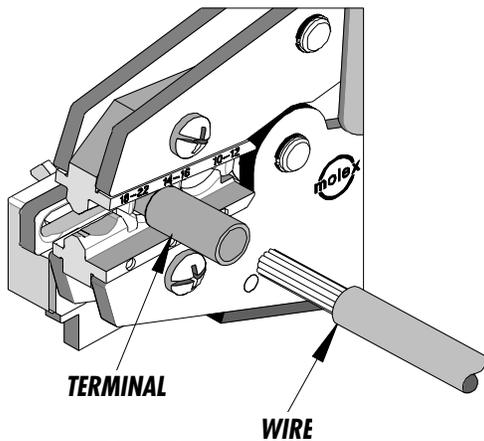

Figure 2
2. Partially close the hand tool jaws until the connector is held snug in place. See Figure 2.
3. Insert the properly stripped wire into the terminal barrel (See Figure 2 and 3).